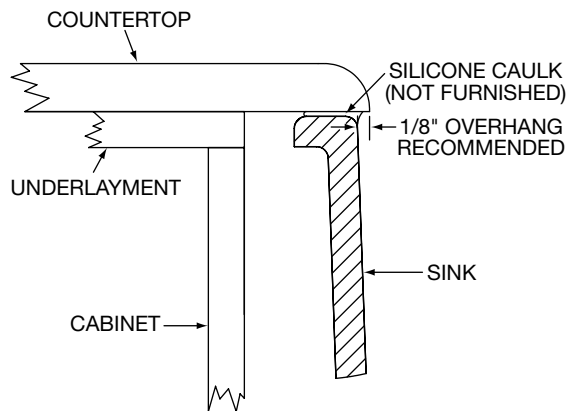

FIGURE 3
- **Templates** are not included however it is recommended that the sink countertop cutout provide a 1/8" overhang into the sink bowl opening as shown in Figure 3. Do not reduce this 1/8" dimension since the bowl shape and overall size will have dimensional variation.